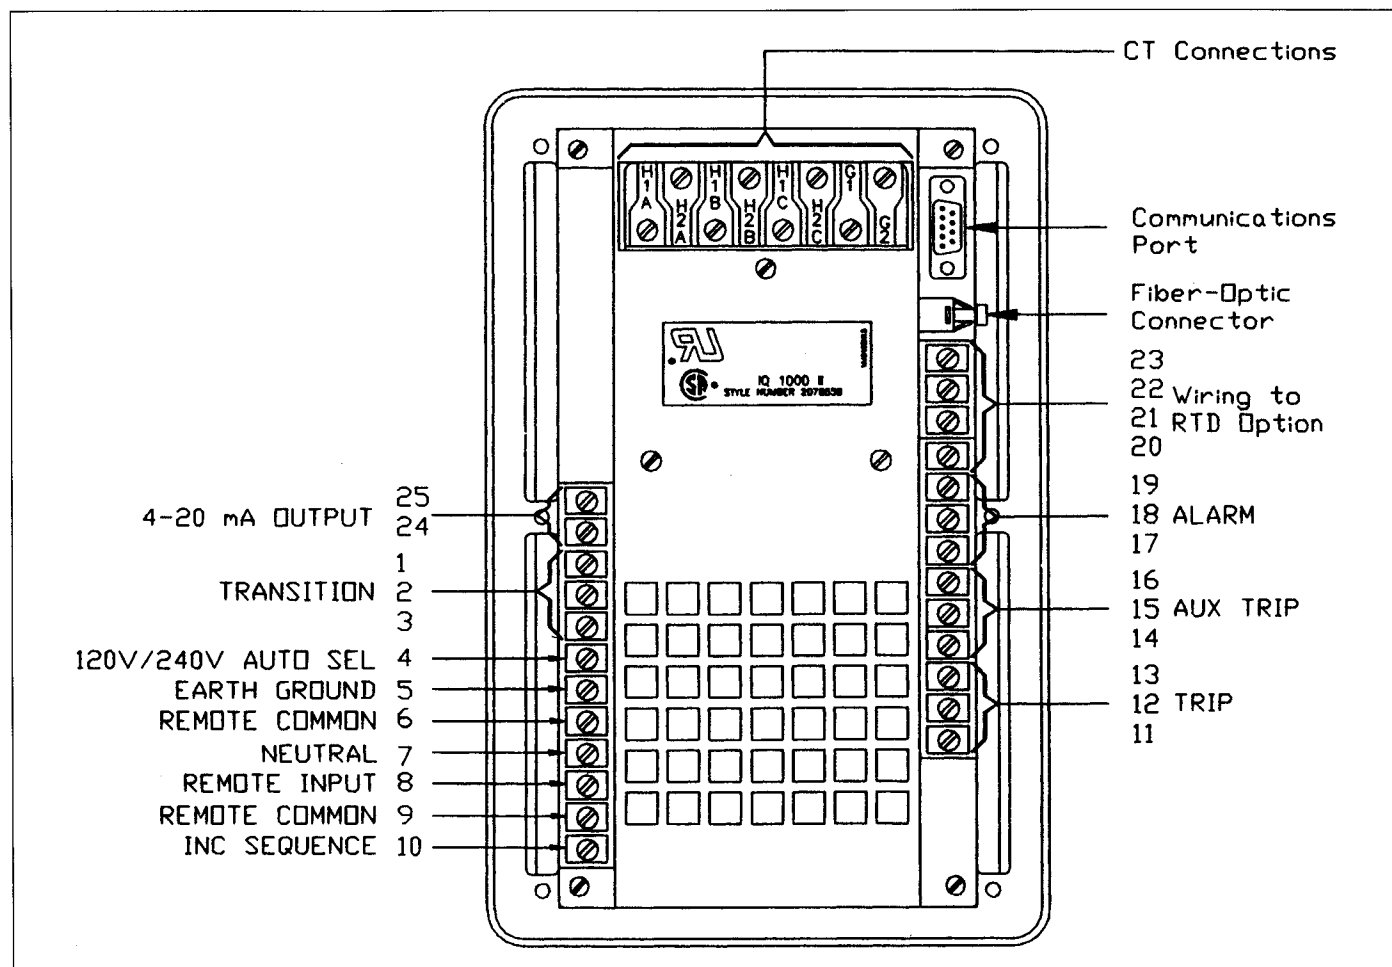

Fig. 2.2 Rear Panel
2.1.2 Rear Access Area—The rear of the IQ-1000 II is normally accessible from the rear of the mounting cabinet's door (see Figure 2.2). All wiring connections to the unit are made on the back of the IQ-1000 II, as follows: